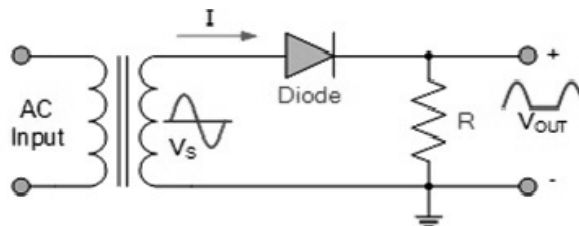

Figure 2: Circuit diagram of Half Wave rectifier.
1. Make the connection as per the circuit diagram shown in figure2.